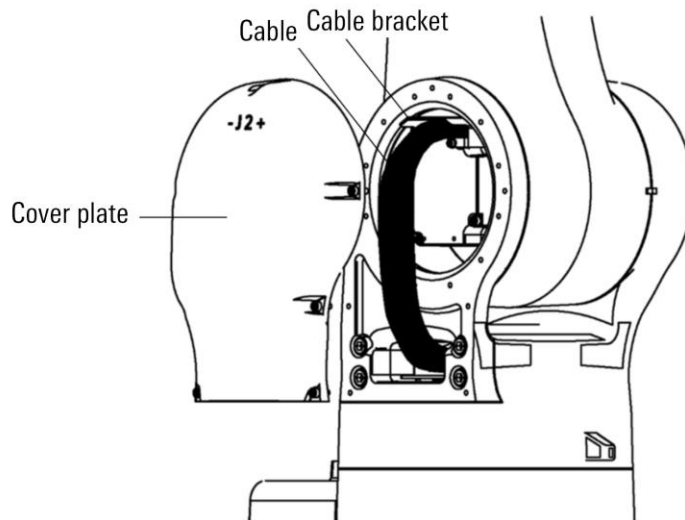

Figure 12-2 Overhaul of internal cable of J1 axis body
- Step1. Remove the cover of J1 axis manipulator, as shown in Figure 12-2.